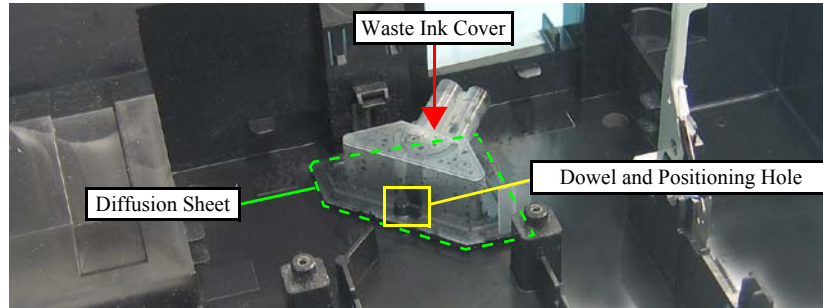

Figure 4-110. Removing the Waste Ink Cover and Diffusion Sheet
- When installing the Waste Ink Cover, be sure to align the dowel (x1) of the Base Frame with the positioning hole (x1) of the Waste Ink Cover as shown in Figure 4-110. Make sure to confirm the cover is properly secured on the Diffusion Sheet without any gap.